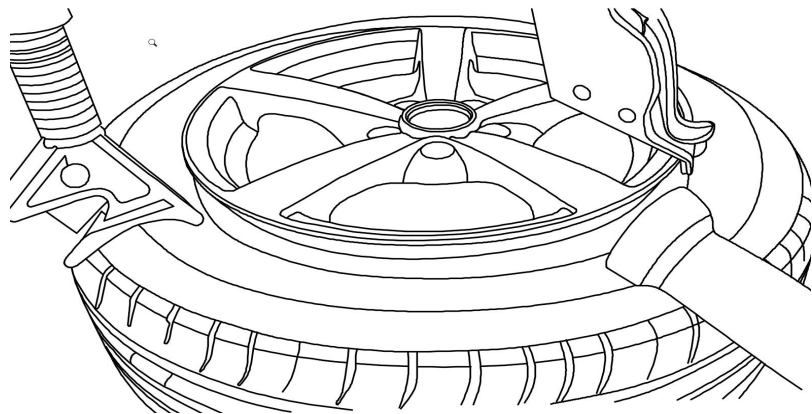

Fig.33
1) Pull out the pressing roller and pull the control handle of the help arm system to lower the roller on to the tyre (Fig.33).
- 3) Stepping on the rotating pedal, the turntable rotates and the pressing block moves accordingly (Fig.33). With the help of the mount/demount head, mount upper tyre bead on the wheel.